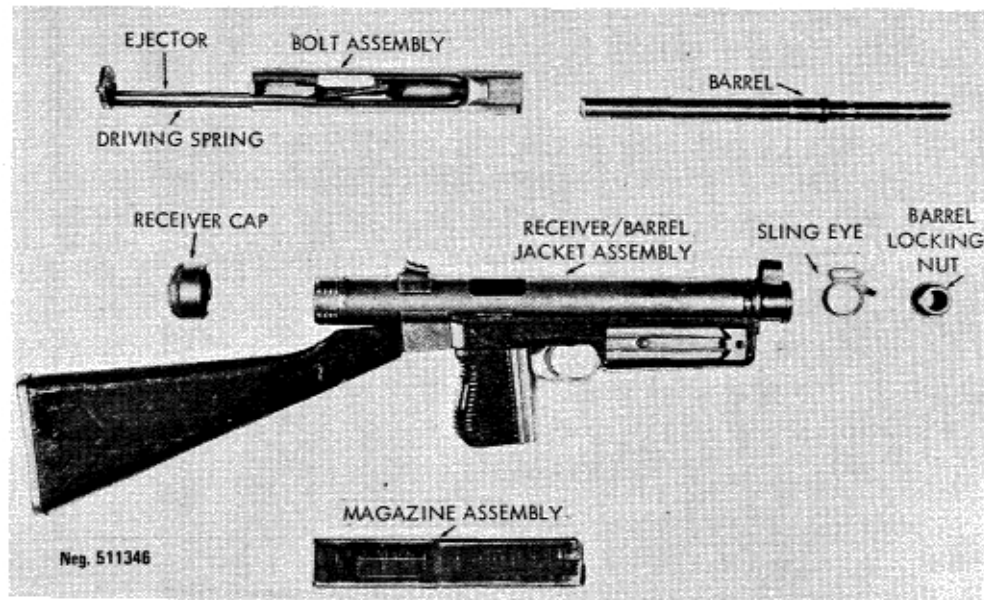

Figure 47. Vz24 submachinegun disassembled.
(3) Pull the operating handle to the rear to start the driving springs out of the back of the receiver. Grasp the round plate and pull the bolt assembly out of the receiver.
(4) If this weapon is the Vz25 or 26 submachinegun, unfold the stock. On all guns, unscrew the barrel locking nut (fig 47), using the front of the bolt as a wrench, if necessary, and pull the barrel out of the receiver.
(5) No further disassembly is necessary or desirable.
b. The recoil of the fired cartridge forces the bolt to the rear, compressing the driving spring. The fired cartridge case is held to the bolt by the extractor until the case strikes the ejector (fig 47). At this instant, the ejection ports in the bolt and receiver are aligned with each other, and the cartridge case pivots about the extractor and is thrown out the ejection ports. The bolt continues to the rear until it strikes the plate on the driving spring assembly; the driving spring then drives the bolt forward again.